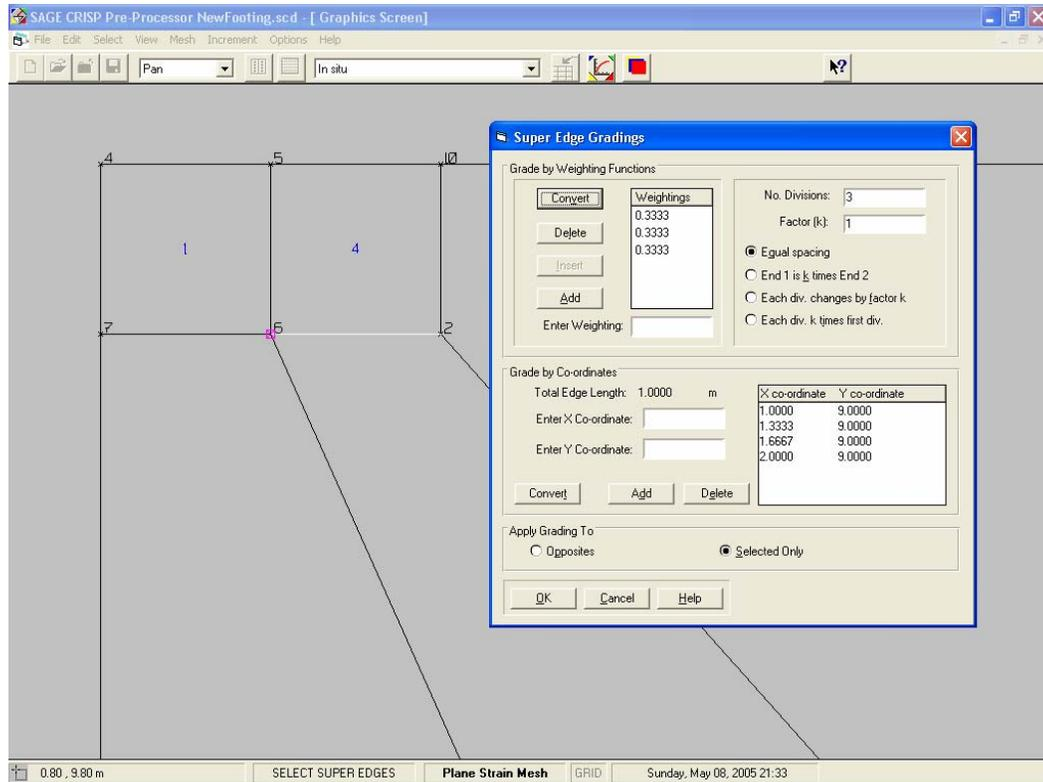

Figure 15 Defining Edge Gradings near the footing corner
- Step 24** Enter '3' into the Number of Divisions text box and click on the Equal Spacing. option. Weighting values will be automatically entered and the dialogue box should now look like Figure 15.